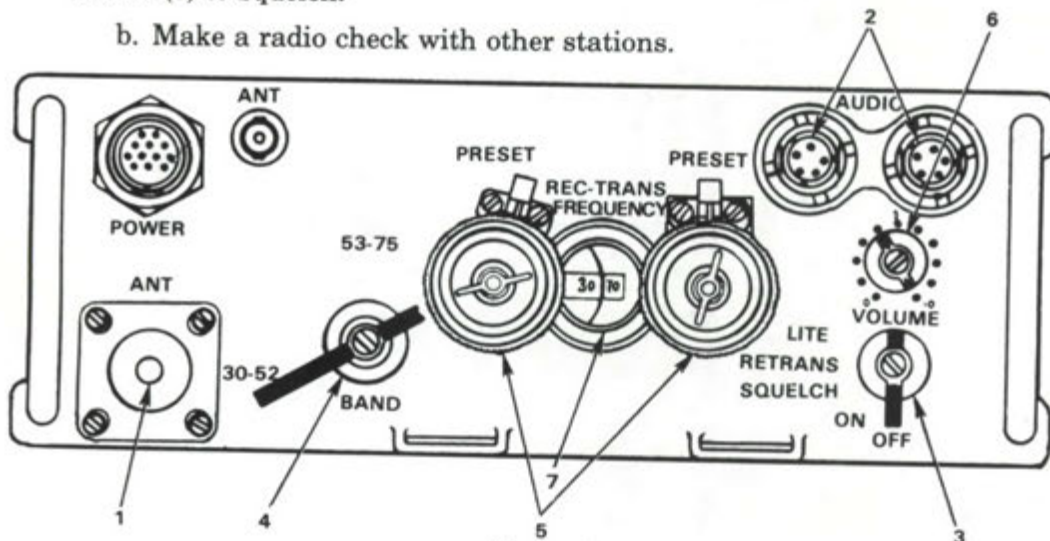

Figure 3.
3. To operate set (figure 3) (TM 11-5820-667-12, chap 3, pages 3-1 thru 3-7).
a. The numbers of steps 1 through 6 below relate to the numbers in figure 3.
- (1) Install the antenna required for the type of operation in the antenna mount.
- (2) Attach handset H-189/GR to either audio connector.
- (3) Turn the function switch to on.
- (4) Turn the band switch to the desired operating frequency band.
- (5) Turn the MC tuning and KC tuning control knobs until desired frequency appears in the channel dial (7).
- (6) Turn the volume control to 4.
- (7) Press the handset H-189/GR push-to-talk switch and speak into handset; release the push-to-talk switch to listen.
- (8) Adjust the volume control (6) for a desirable sound level.
- (9) To reduce the rushing noise when no signal is being received, turn switch (3) to squelch.
- (3) Receiver-transmitter RT-871/PPC-77 (figure 3).